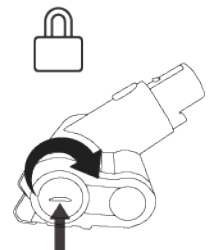

Figure 24
5. Lock the Sidekick Roller Brush into place by turning the lock on the side to the right, using a flat head screwdriver, until it locks into place. (Figure 24)